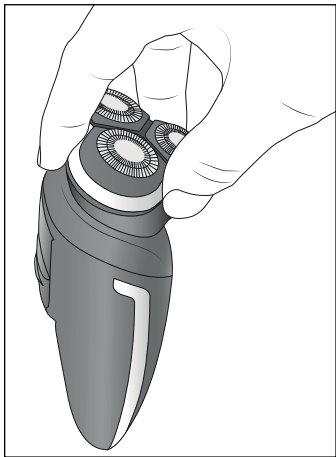

Fig. 2
- 1) Take hold of the cutting unit **2** with three fingers in the grip recesses **3** and pull it off (see Fig. 2).